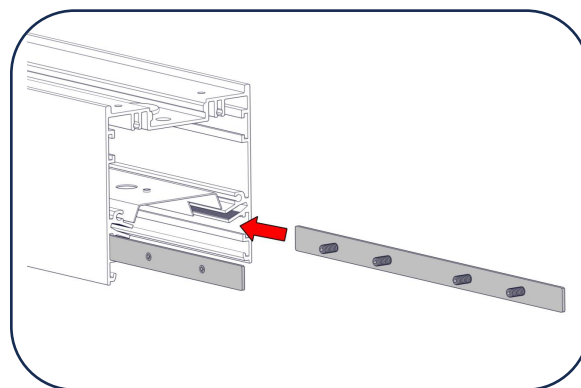

Figure 2
4. Insert **Inner Joiners** into the side(s) of the starter fixture. [Figure 2]. Tighten with a Hex Key or Ratchet.